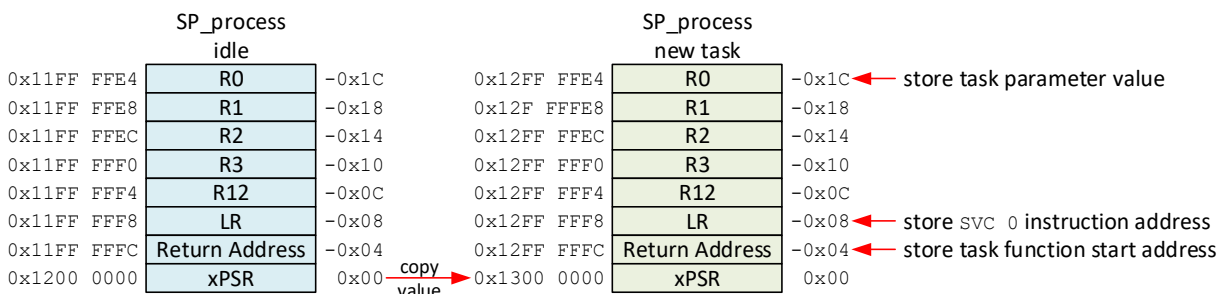

Figure 9 Fixing process stack for the new task (in this case old stack is from idle task but it will be similar if other task was executing before)
- b. set PSP to point to new task specific process stack (in Figure 9 it's 0x12FF FFE4, processor will unwind stack and restore respective registers during interrupt exit procedure).